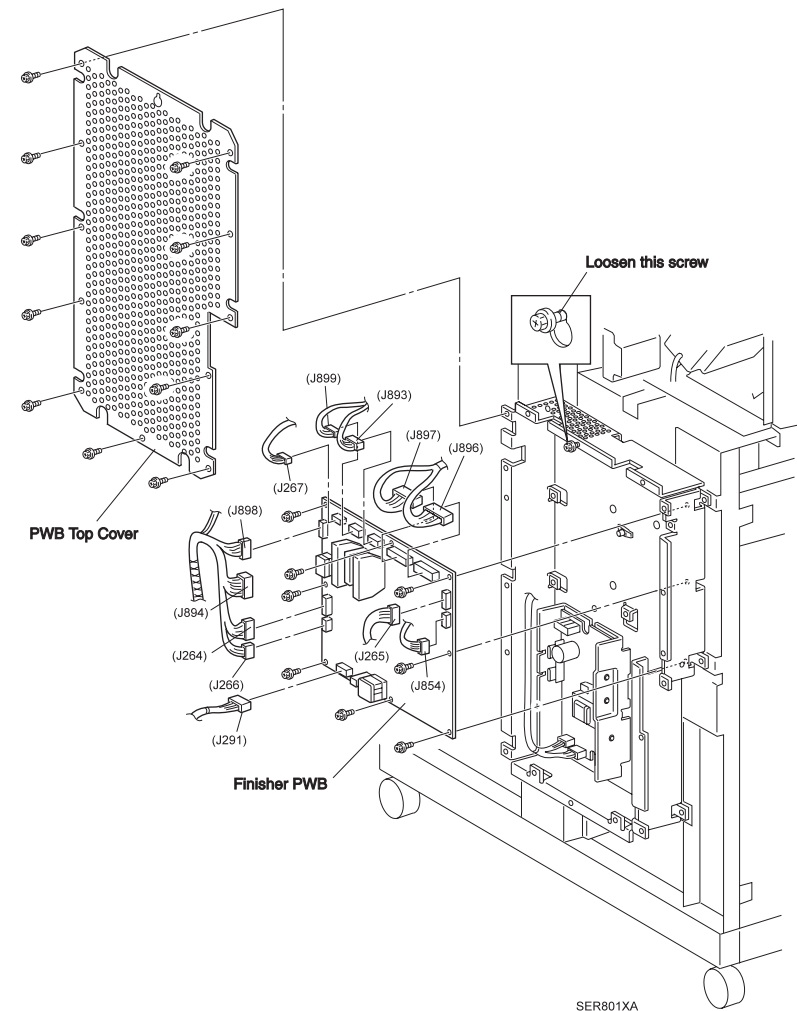

Figure 3-88. Finisher Stapler PWB Assembly
1. Place the Finisher Stapler PWB to the PWB Bracket as shown in the Figure 3-88.
1. Place the LVPS PWB to the PWB Bracket as shown in the Figure 3-88.